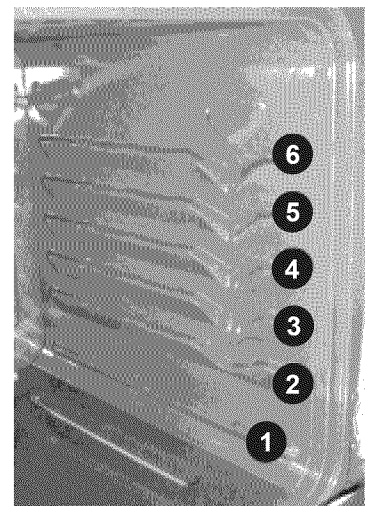

Fig. 2
3. When using 2 oven racks at the same time, place in oven rack positions 2 & 5 for best results (See Fig. 2)